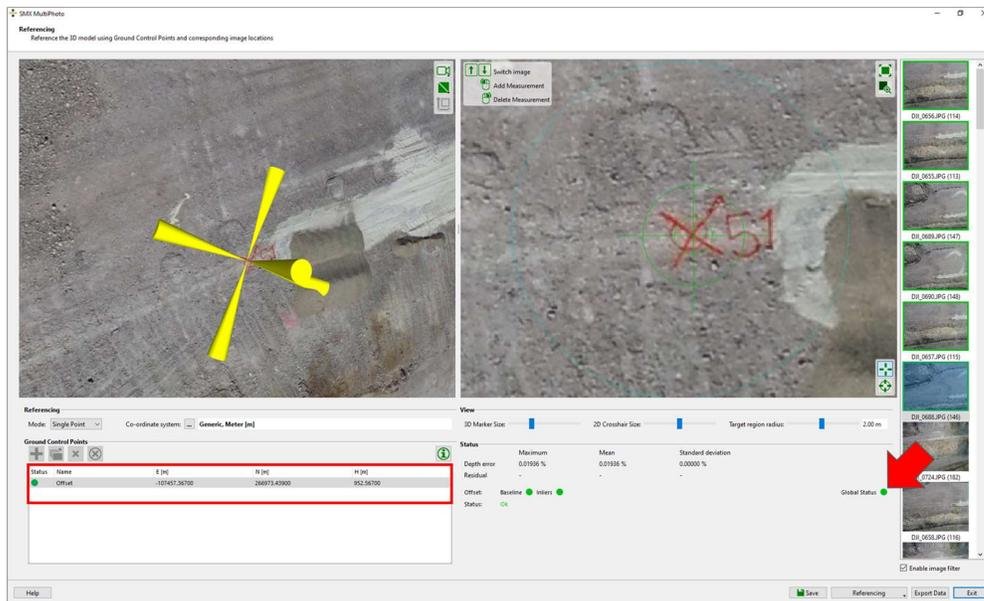

Figure 30: Single Point mode
6. Check the *Status Information* (green status signals) and enable referencing by clicking the “*Save*”  button. See Figure 30.